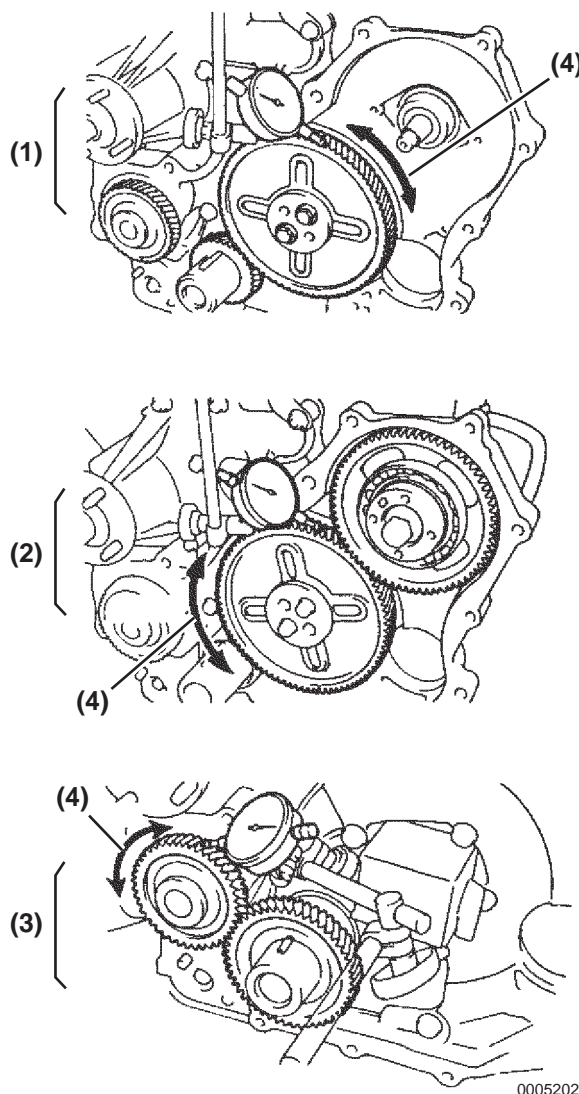

Figure 5-202
7. Install all the timing gears and measure the backlash using a dial indicator (**Figure 5-202**).